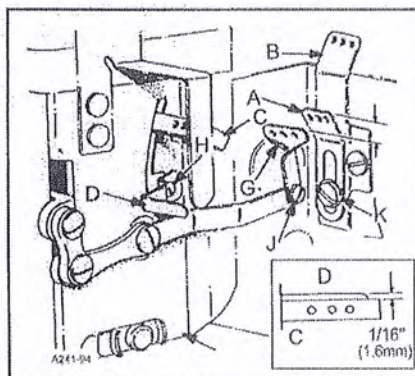

FIG. 20
With the needle bar at the top of its stroke set the adjustable frame needle thread eyelet (A, Fig. 20) in the lower mounting hole of eyelet (B) so the needle thread from eyelet (A) to the needle lever thread eyelet (C) will be in a straight line. If adjustment of eyelet (A) is necessary loosen screw (K) and move eyelet up or down as required. Retighten screw (K).